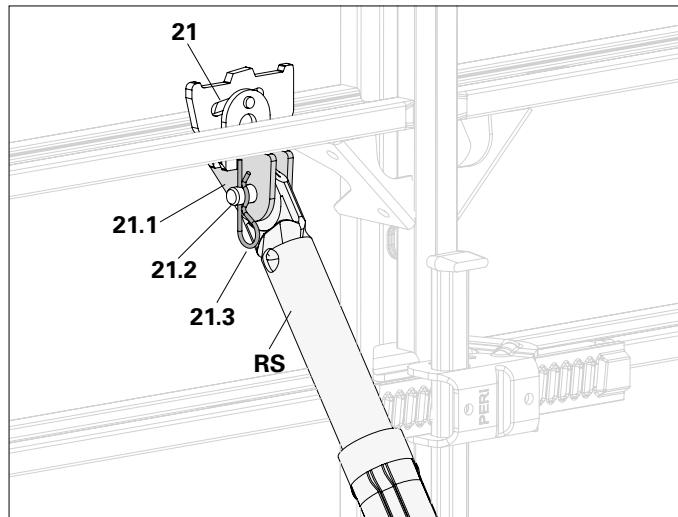

Fig. A6.02
Connect Push-Pull Prop (RS) and connection lugs (**21.1**) with bolts (**21.2**) and cotter pins (**21.3**). (Fig. A6.02)